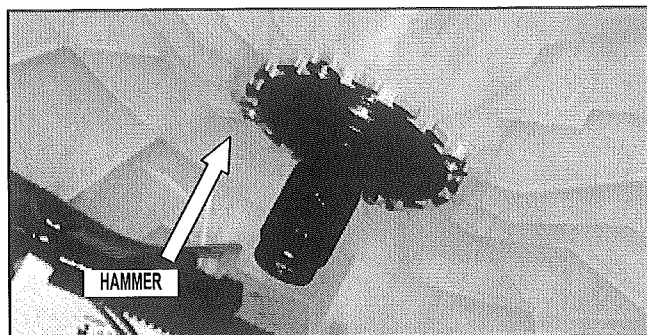

FIGURE 7
11. Remove drive shaft and seal (with hammer). See *Figure 7*.